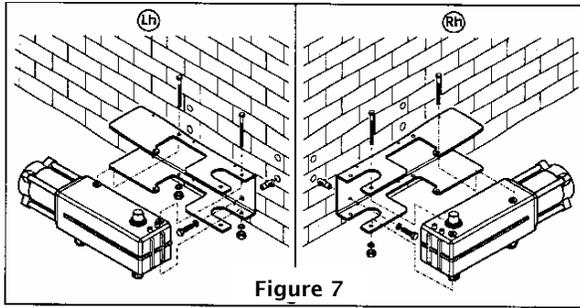

Figure 7
- * Fit the 390 Operator into the base plate and secure it with the 2 screws, nuts and lock washers. Figure 7
Figure 7 shows how to attach the operator to the base plate.